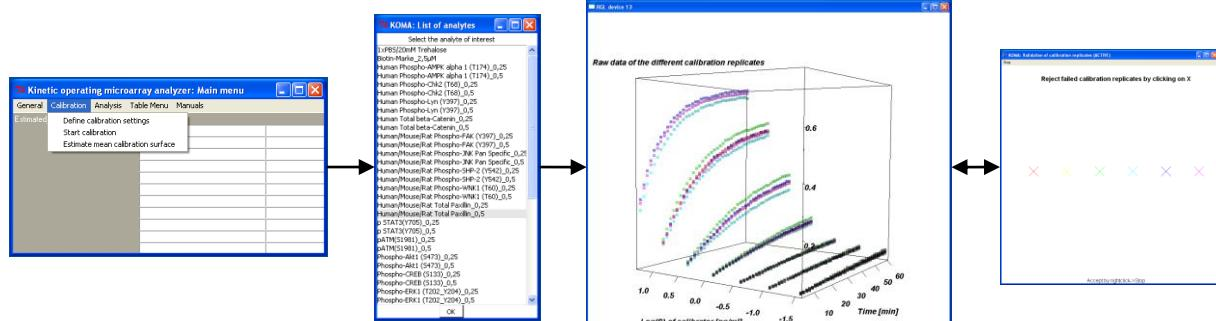

Figure 8. Verification of independent calibration replicates. In this example, data from 6 independent replicates were overlaid.
4. In the final calibration step, the mean calibration surface and the limits of quantification are estimated. For this, go to “Calibration” → “Estimate mean calibration surface” and select the analyte of interest from the layout list. KOMA will load respective R files obtained from independent calibration replicates (at least 3 of them) and generate a 3D overlay of time-resolved signal increase for every calibrator concentration and every replicate. In a second window, failed calibration replicates can be excluded, if necessary, from the following analysis (Fig. 8).